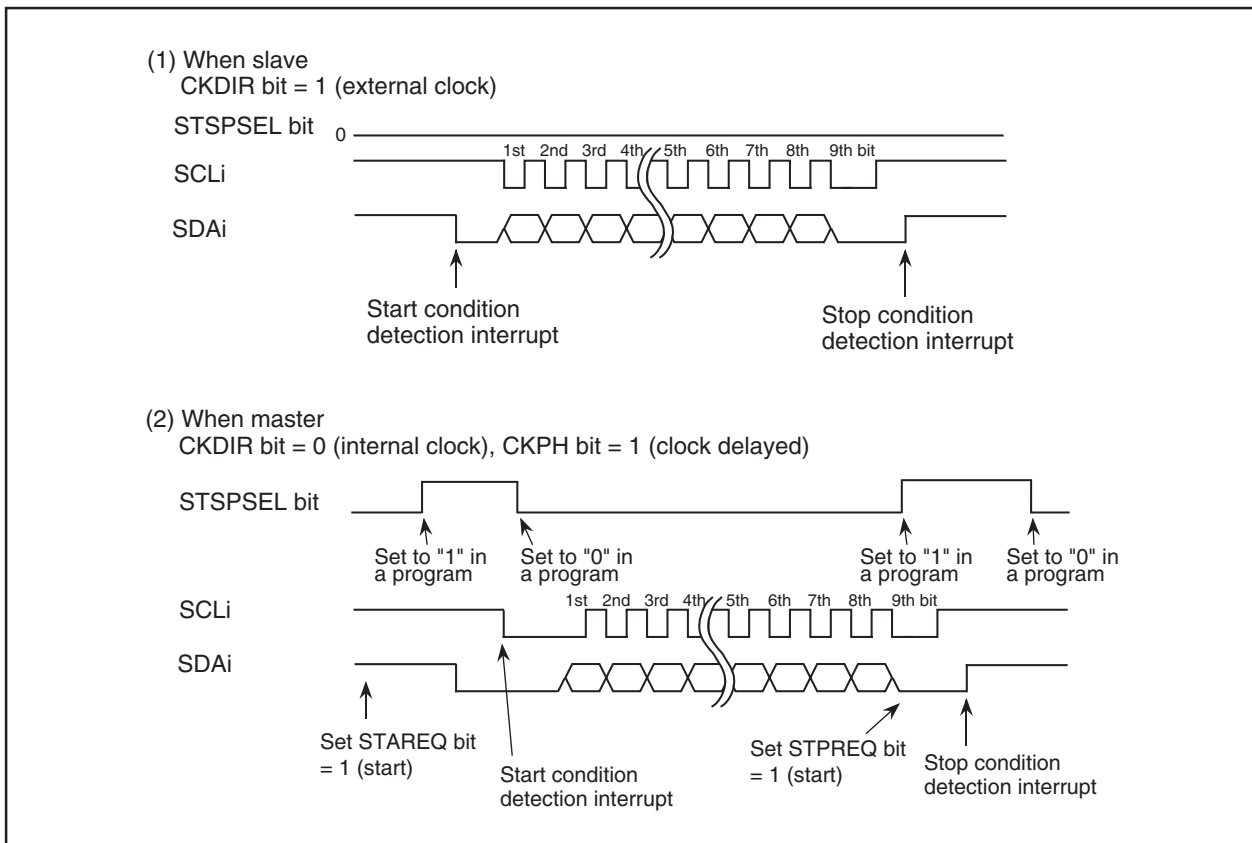

Figure 15.26 STSPSEL Bit Functions
- See Figure 15.26 STSPSEL Bit Functions.
Table 15.13 and Figure 15.26 show the functions of the STSPSEL bit.